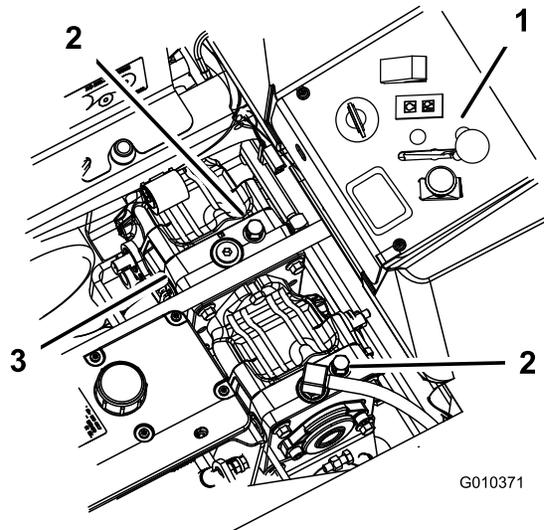

Figure 39
3. Rotate the bypass valves counterclockwise 1 turn to push (Figure 39).
Rotate the bypass valves clockwise 1 turn to operate machine (Figure 39).